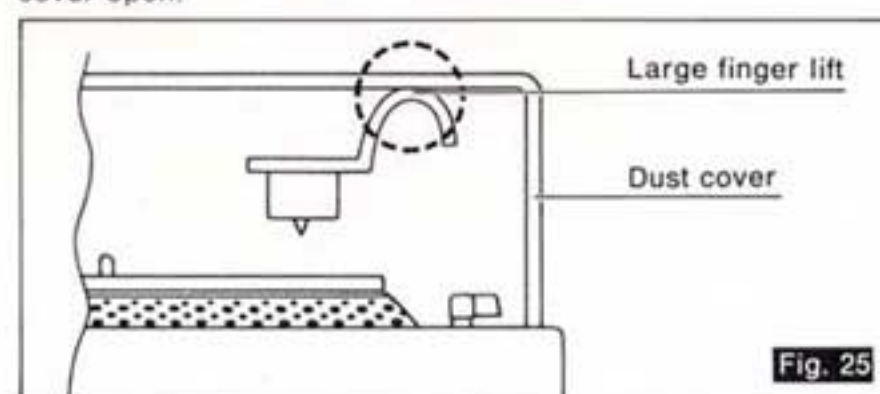

Fig. 25
⑦ When you use other head shells, be careful about the head shell configuration. (See Fig. 25)